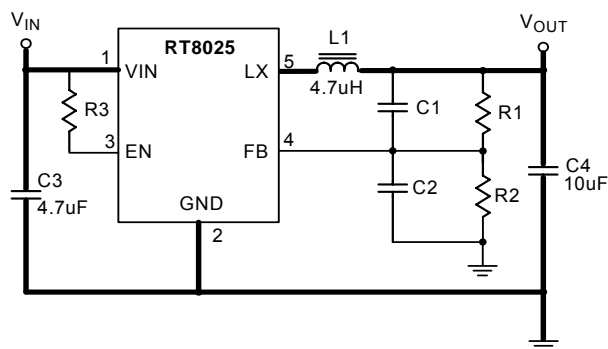

Figure 6. EVB Schematic
- ▶ For the main current paths as indicated in bold lines in Figure 6 keep their traces short and wide.